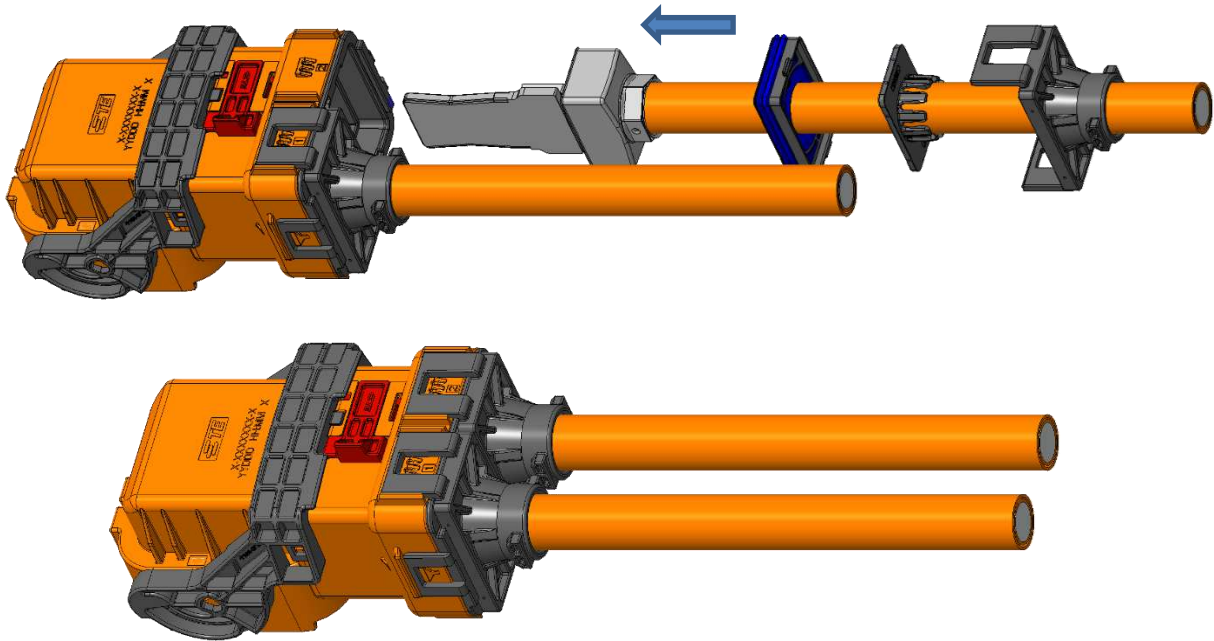

Figure 15: Plug-Cable Assembly
13. Repeat steps 8 thru 11 for the other cable assembly to complete the plug-cable assembly as shown in Figure 15.